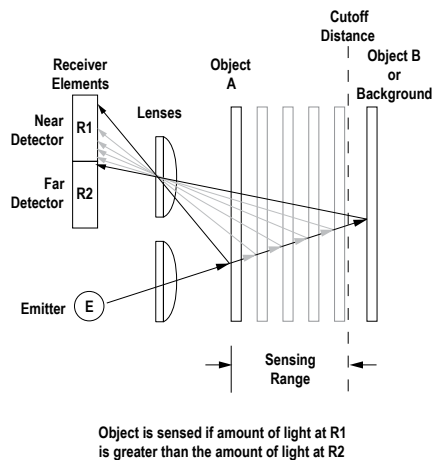

Figure 1. Fixed-Field Concept
The T30FF NAMUR compares the reflections of its emitted light beam (E) from an object back to the sensor's two differently aimed detectors, R1 and R2. See Figure 1 on page 2. If the near detector's (R1) light signal is stronger than the far detector's (R2) light signal (see object A in the Figure below, closer than the cutoff distance), the sensor responds to the object. If the far detector's (R2) light signal is stronger than the near detector's (R1) light signal (see object B in the Figure below, beyond the cutoff distance), the sensor ignores the object.